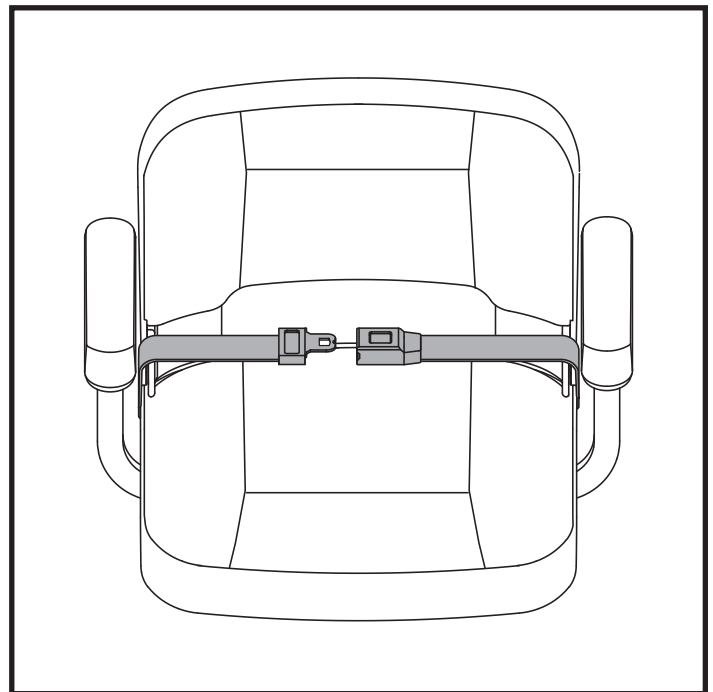

Figure 17. Positioning Belt - Metal Tab Style
1. Insert the metal tab on the right side of the belt into the plastic housing on the opposite strap until you hear a “click.” See figure 17.